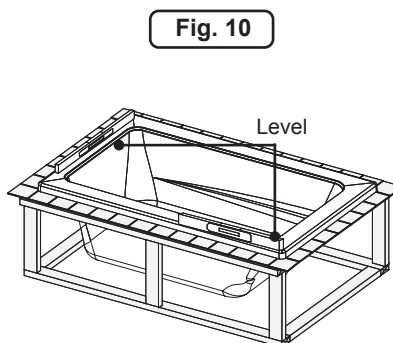

Fig. 10
- The bathtub must be set level. To check, use a level on top of the ledges on both ends of tub and on top of threshold (Figure 10).